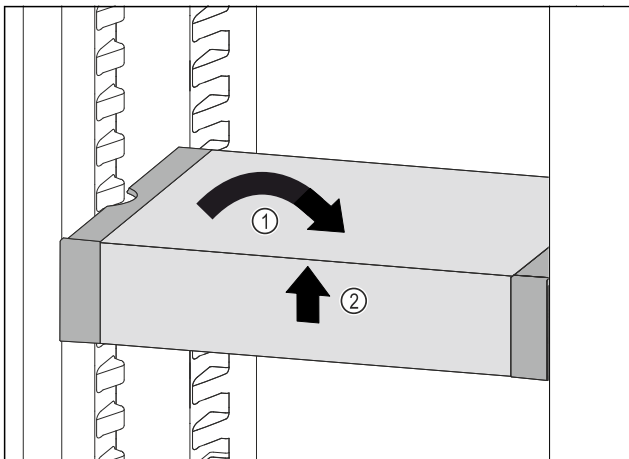

Fig. 117
- ▶ Set VarioSafe straight. Fig. 117 (1)
- ▶ Lift VarioSafe at the front. Fig. 117 (2)